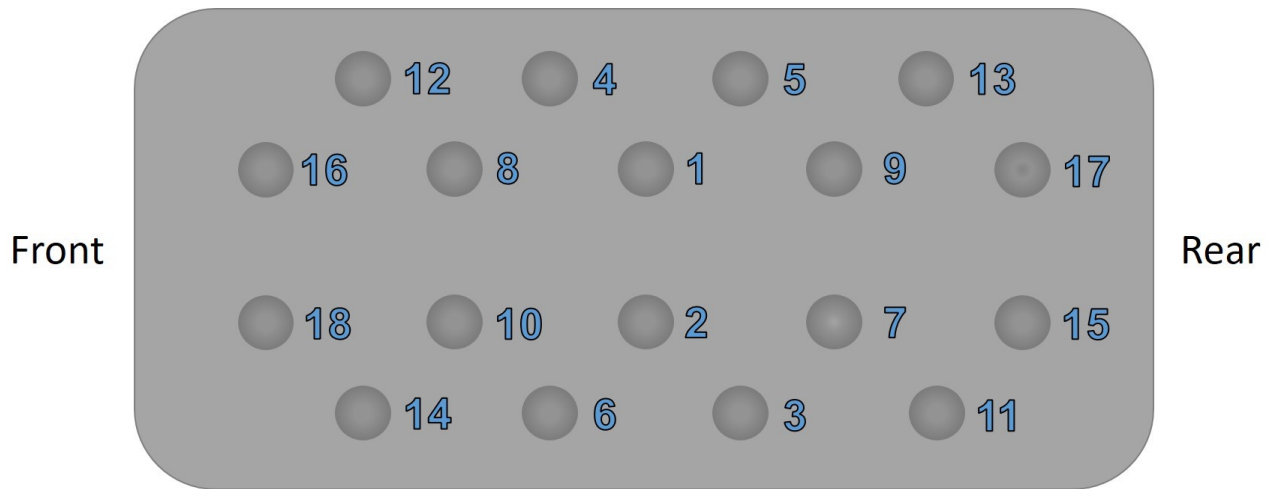

Figure 26: Cylinder Head Tightening Sequence
- Tighten all the cylinder head bolts to 30Nm following the sequence shown in **Figure 26**.
- Tighten all the cylinder head bolts to 50Nm following the sequence shown in **Figure 26**.
- Turn all the cylinder head bolts 60° clockwise following the sequence shown in **Figure 26**.
- Turn all the cylinder head bolts a further 60° clockwise following the sequence shown in **Figure 26**.